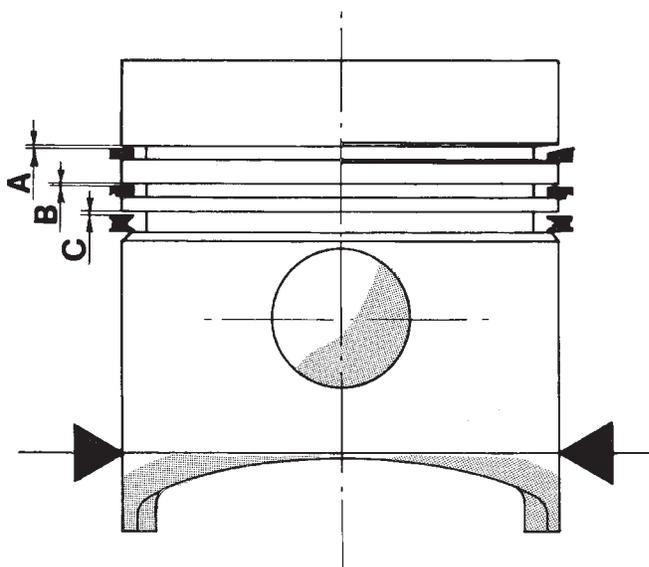

Fig. 78 Piston Ring Side Clearance
(2) If ring gaps exceed dimension given, new rings or cylinder liners must be fitted. Keep piston rings in piston sets.
(3) Check piston ring to groove clearance (Fig. 78). Top compression ring gap .08 to .130 mm (.0031 to .0051 in.). Second compression ring gap .070 to .102 mm (.0027 to .0040 in.). Oil control ring gap .040 to .072 mm (.0015 to .0028 in.).